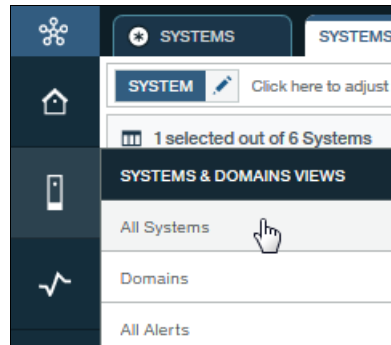

Figure 1-21 All Systems menu
1. From the Hyper-Scale Manager GUI, click the **Systems & Domains Views** icon and select **All Systems** from the menu, as shown in Figure 1-21.